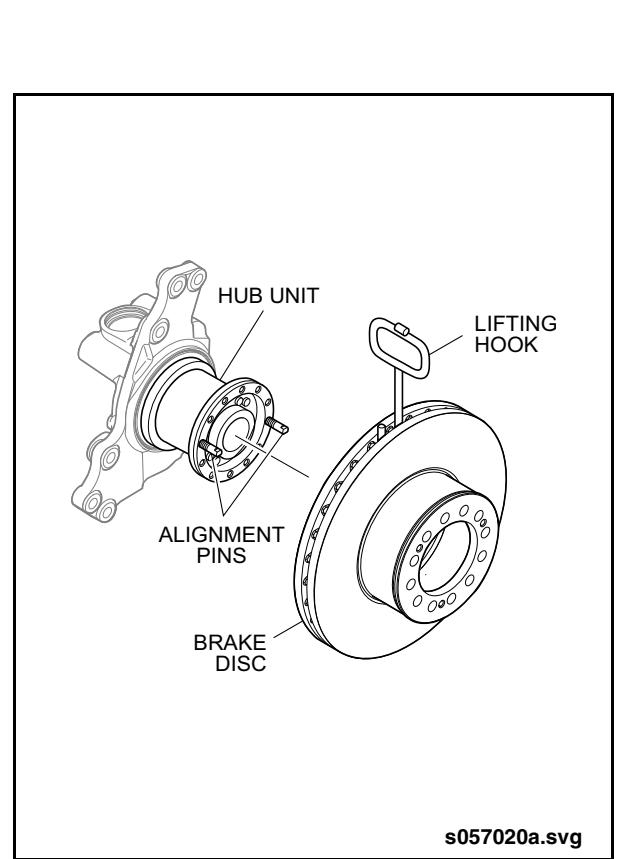

Fig. 1-74: Brake Disc Removal
4. Thread the alignment pins (Item 14 from special tools list) through the brake disc into opposite facing tapped holes in the hub-unit. See "Fig. 1-74: Brake Disc Removal" on page 69.